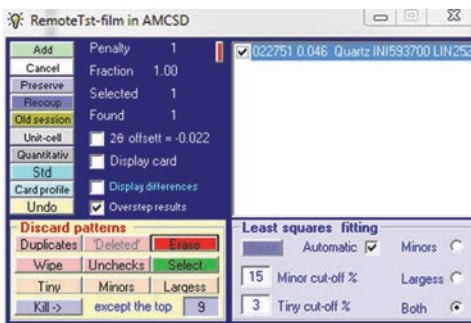

Figure C-9 Dialog box showing the selected phase
11. Click **Unchecks** to eliminate unchecked (unwanted) phases (see Figure C-9 on page 95).
| Figure C-9 | Dialog box showing the selected phase | 95 |